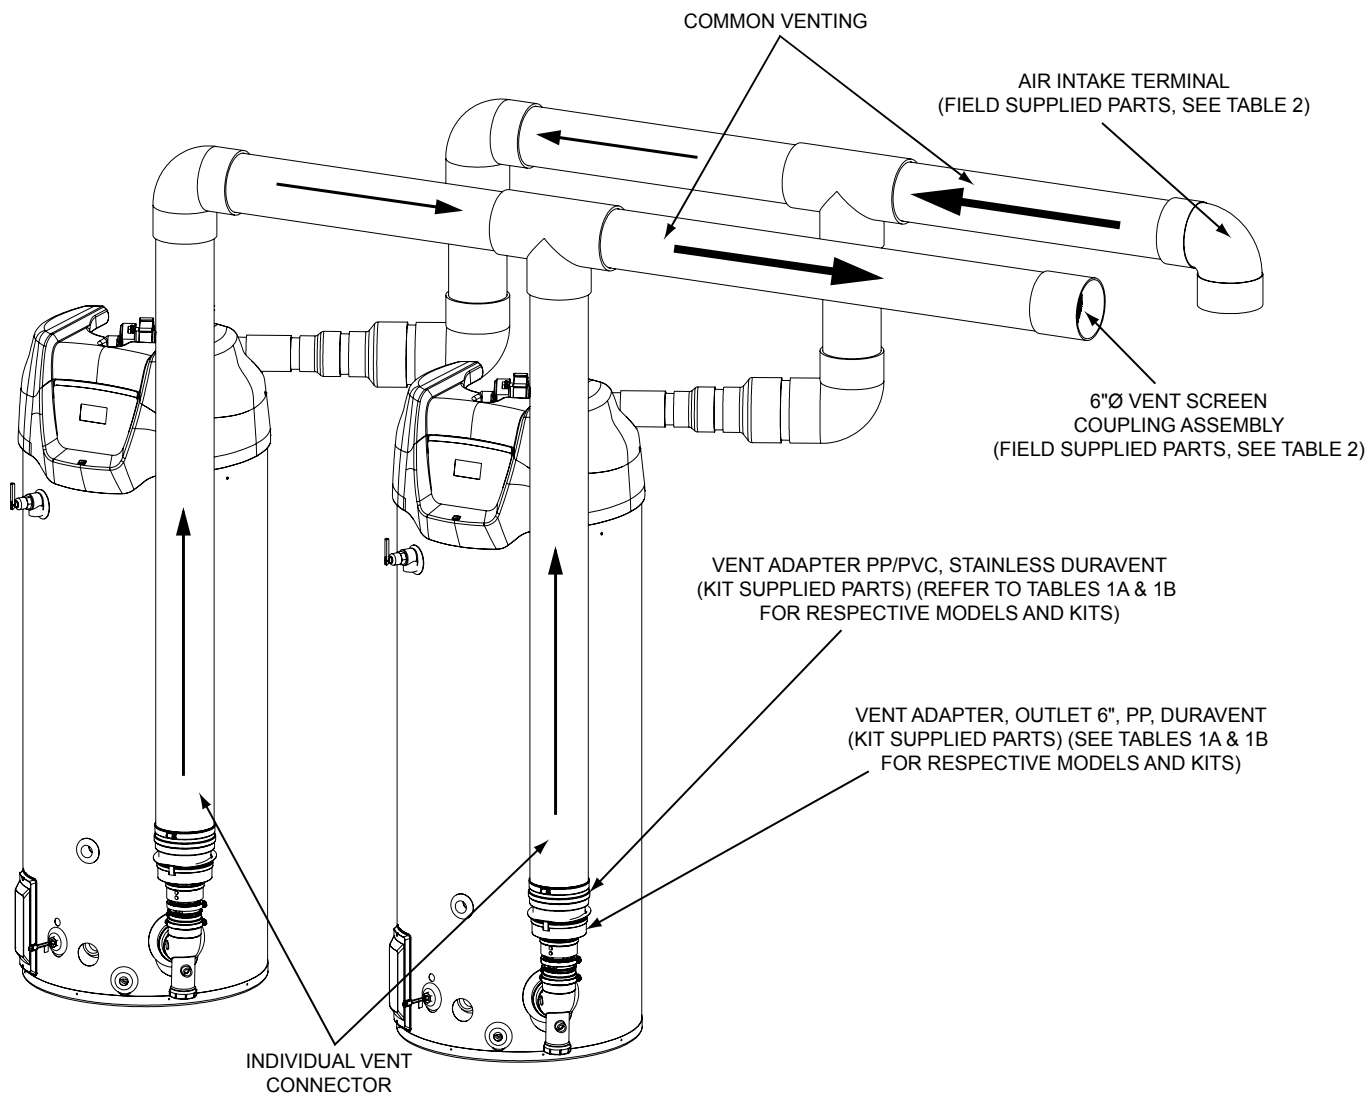
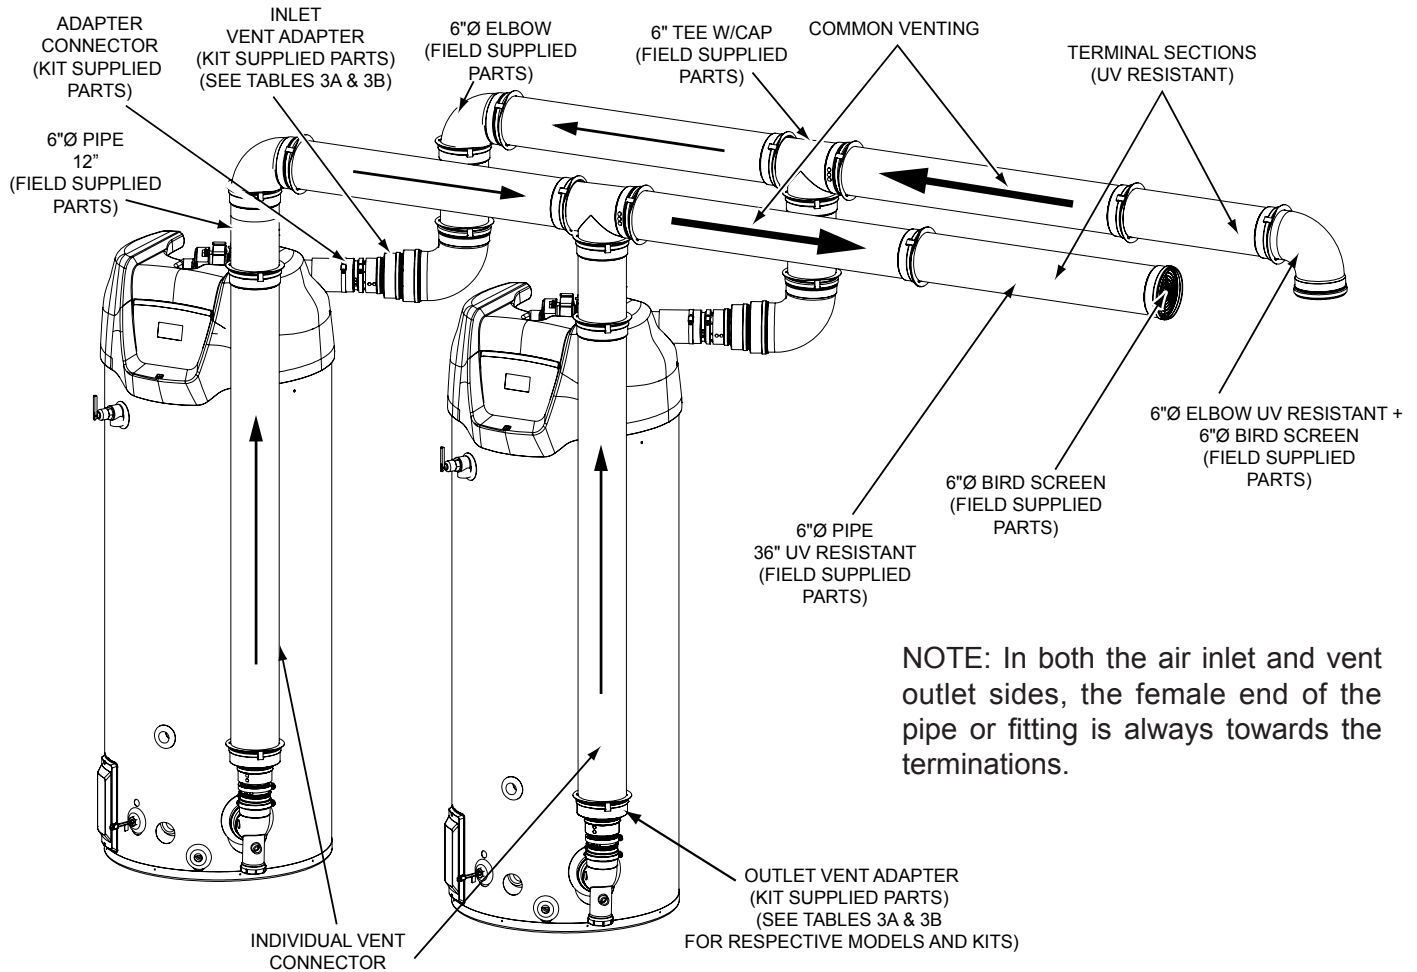

FIGURE 1. DEFINITION OF SYSTEM SECTIONS - PVC
FIGURE 4. DEFINITION OF SYSTEM SECTIONS - POLYPROPYLENE
- Two (2) heaters only,
- No change to the system layout, as shown in Figure 1 or Figure 4, except as explained in the section following and
The common vent is the section of the vent and air inlet piping where the gases from both heaters flow together, See Figure 1. The maximum equivalent length straight pipe and elbows of the common sections is 50 feet. The minimum equivalent length of the common sections is 3 feet. Each 90° elbow is equal to 5 feet and a 45° elbow is equal to 2½ feet. The maximum number of elbows is three. The air intake terminal (90° elbow) is not included in the equivalent length.
The individual vent connectors attach the heaters to the common vent. The exhaust vent connectors are attached to the water heater with the parts in the kit. The air inlet connectors are attached with PVC reducing fittings to the heater's PVC coupling. As shown in Figure 1, the individual vent connectors consist of vertical and horizontal sections that connect the heater outlets to the common vent. Using different lengths of pipes, the height of the horizontal sections may be adjusted to be from 80" to 110" from the bottom of the heater to the centerline of the horizontal section. The combustion air and exhaust vent sides of the system may be different heights, but each must meet the 80" to 110" height requirement.
The common sections are the pipes that carry the vent gas or intake air to and from the outside. Each pipe must extend from the tee over the heaters to the outside/ outdoors etc. It is preferred to run the air and vent sections next to each other, over a similar path as shown in Figure 1. However, differences may be needed in the field. The requirements for both the air intake and vent common sections are:
For example, to common vent 2 heaters requires 2 of the kits in Table 3A plus the additional parts in Table 4. This is enough to create the system in Figure 4. Additional Polypropylene parts may be needed to extend the pipe systems between the heaters and the terminations.
The requirements for the layout of the Polypropylene common vent system, required lengths and terminal locations are the same as for the PVC vent. The overall layout is shown in Figure 4. Consult the previous instructions for additional requirements.
Les exigences pour la disposition du réseau de tuyaux de ventilation commun en polypropylène, les longueurs requises et l'emplacement de la bouche sont les mêmes que pour l'évent en PVC. La disposition générale est illustrée sur la Figure 4. Consulter les directives précédentes pour les exigences supplémentaires.
Par exemple, pour 2 chauffe-eau à évent commun, il faut 2 trousses de la Table 3A plus les autres pièces de la Table 4. Ceci suffit pour créer le système dans la Figure 4. D'autres pièces polypropylène peuvent être nécessaires pour prolonger la tuyauterie entre les chauffe-eau et les bouches.